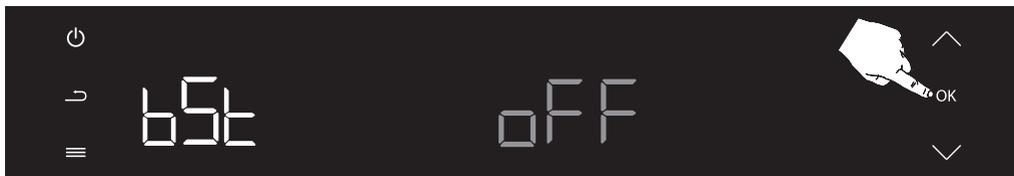

Figure 85
Press the confirm button (OK) once to confirm the OFF location selection. (see fig. 85) Preheating (⏮) is then deactivated